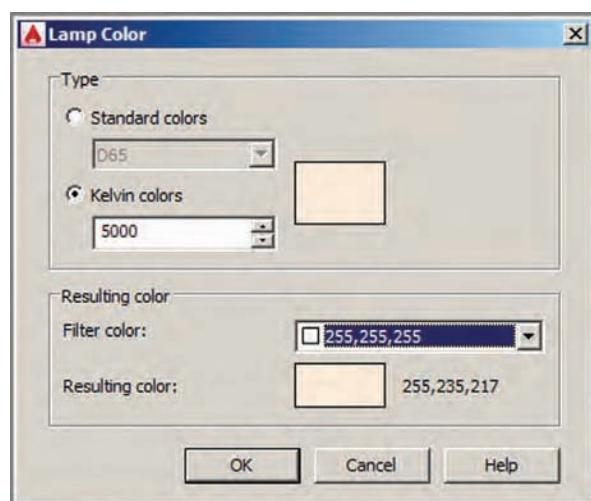

FIGURE 18.11 Specifying lamp color by temperature
- 15.** Right-click the selected lights in the Light Lister and choose Properties. Select the Lamp Color property and click the icon to the right of the drop-down menu to open the Lamp Color dialog box. Select the Kelvin Colors radio button, type **5000**, and press Tab. The resulting color changes (see Figure 18.11). Click OK.